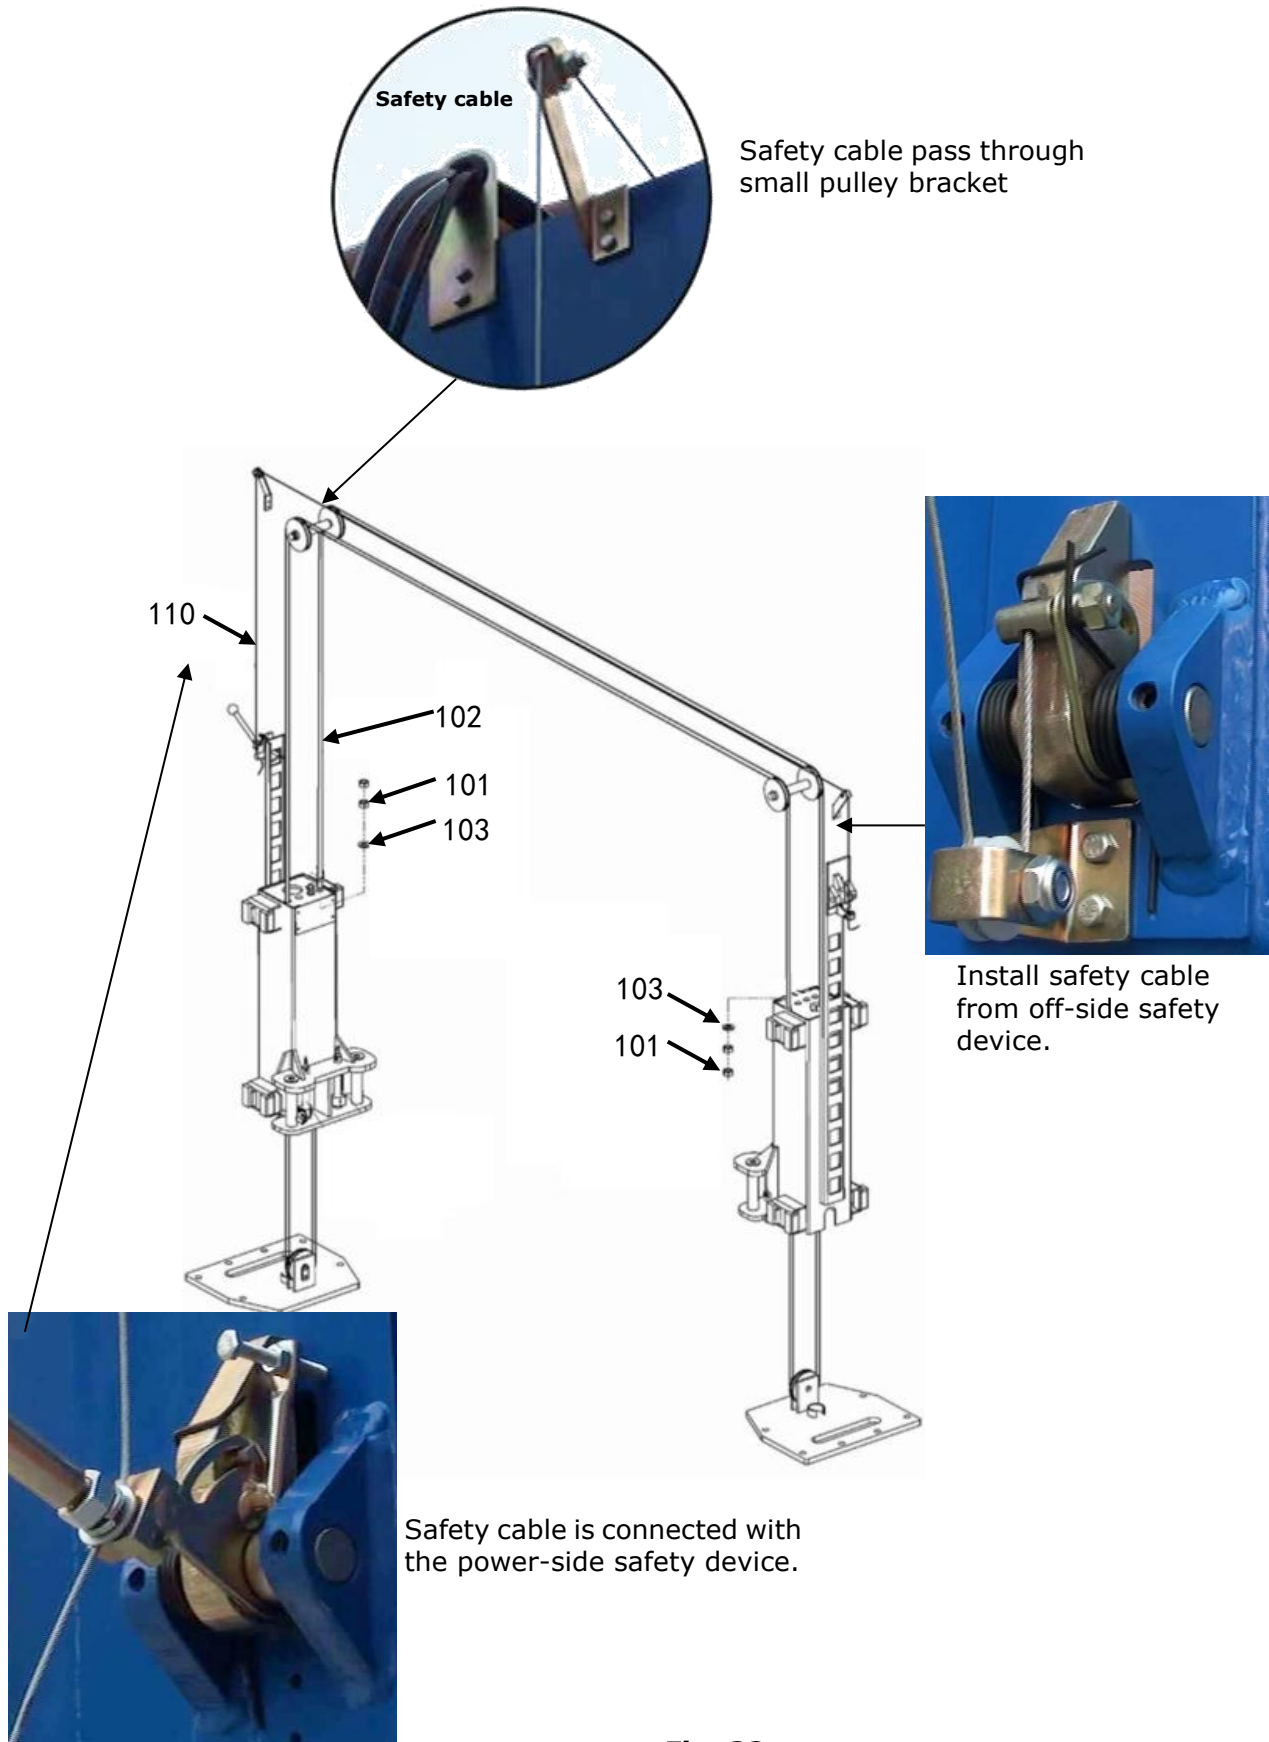

Fig. 32
O. Install safety cable. (See Fig. 32)